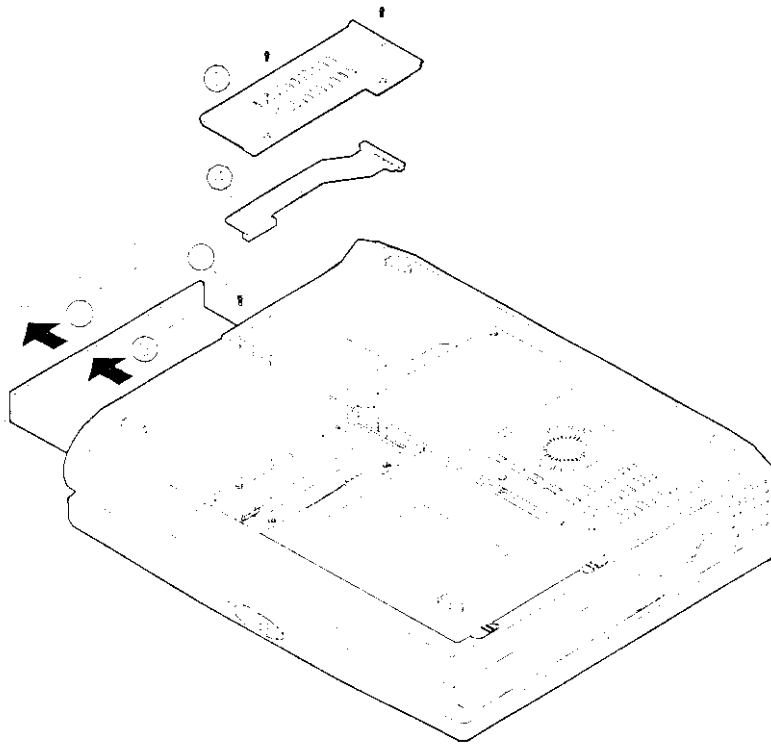

Figure 2-13
3. Remove the CD-ROM cover (Step 1 in Figure 2-13).
4. Remove the screw to release the CD-ROM module. (Step 2 in Figure 2-13).
5. Slide the CD-ROM module slightly out to disconnect the cable (Step 3 and Step 4 in Figure 2-13).
6. Pull gently and firmly the CD-ROM module away from the compartment (Step 5 in Figure 2-13).